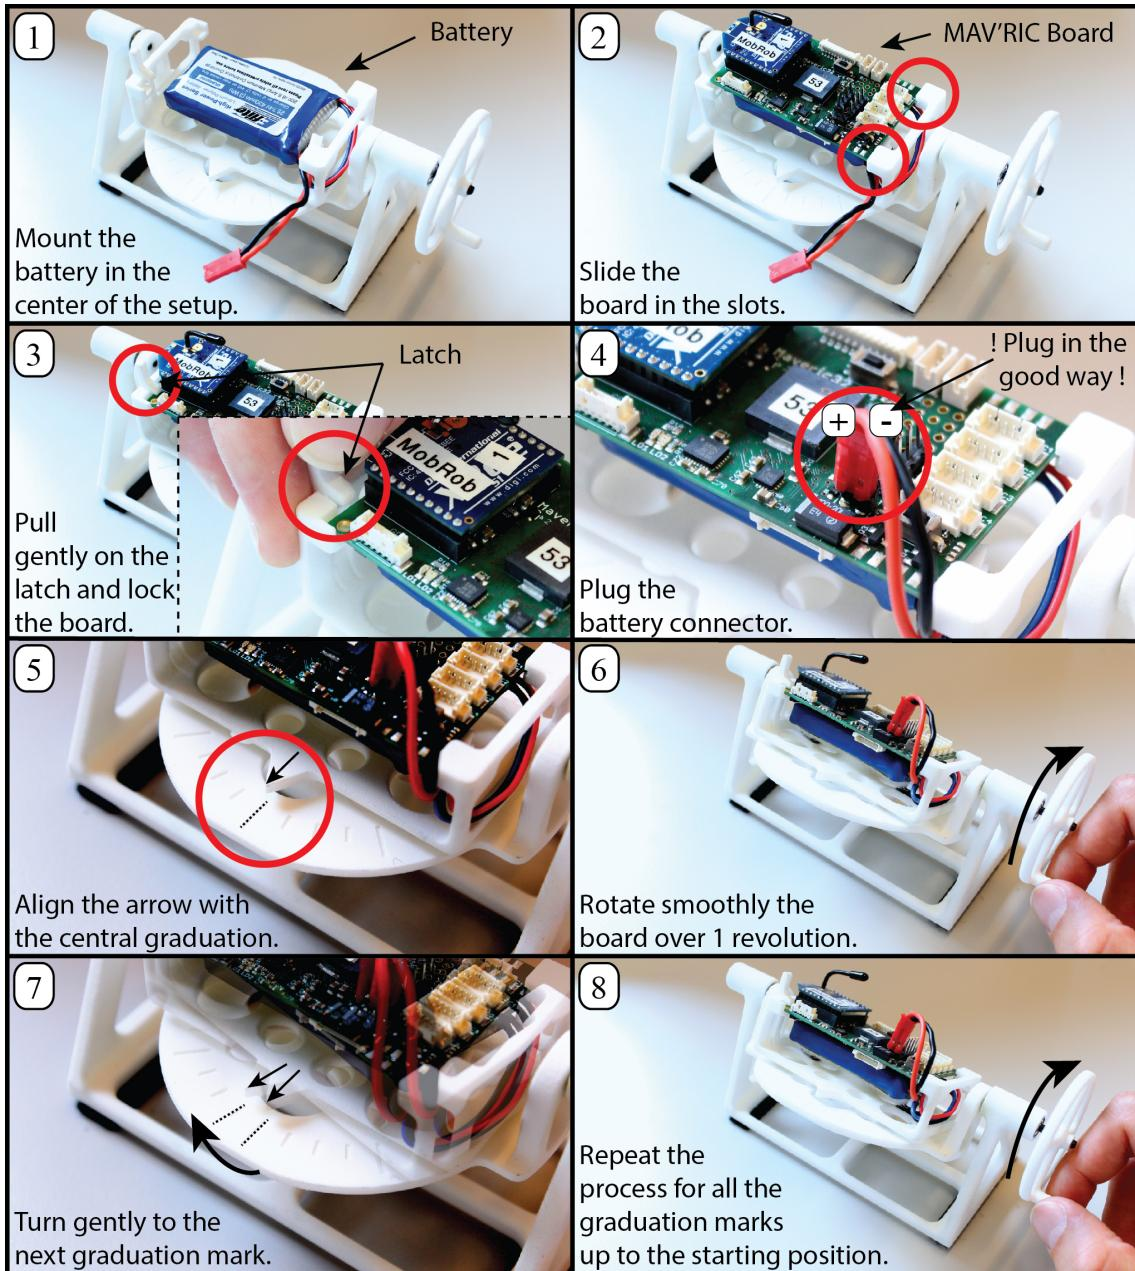

Figure 5.1: Calibration setup.
1. Mount the MAV'RIC board onto the provided calibration setup (see Fig. 5.1).
- a) Attach the 2s Li-Po battery on the setup as shown in (1).
- b) Slide one extremity of the board into the two slots as shown in (2).
- c) Pull gently on the latch until the second extremity of the board can move downwards, then release the latch to lock the board in position (3).
- d) Plug the battery on the MAV'RIC board as shown in (4).
- a) Set the MAV'RIC board parallel to the calibration setup with the graduation teeth in front and parallel with the table (see Fig. 5.1 (5)).